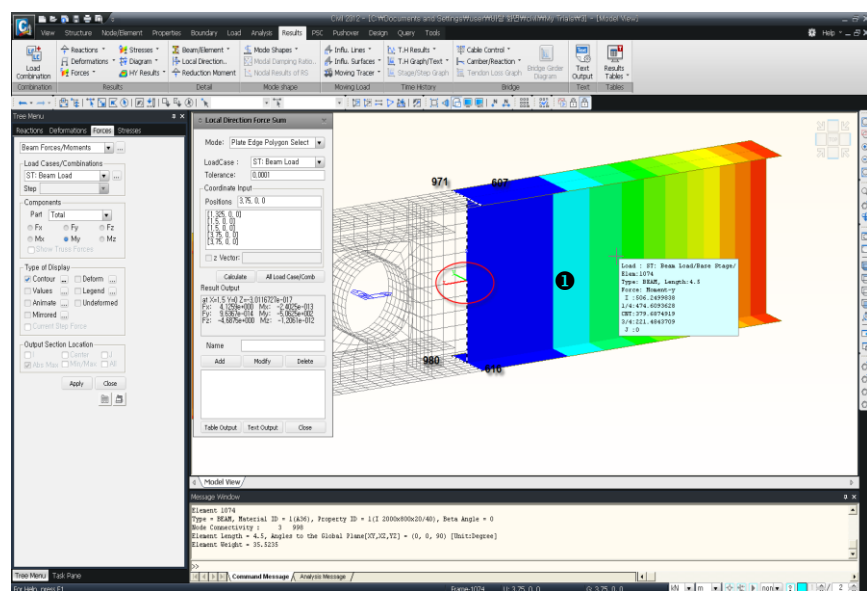

Figure 3.22 Local Force Sum
3. Click  **Zoom Window** in the Icon Menu to magnify the boundary of the detail model and the right side line element (Fig. 3.22).
10. Click nodes **980, 971, 607, 616, 980** successively as shown in Fig.3.22.
The sum of all the nodal forces, contained in the specified section, is computed at the centroid of the section according to the local coordinates (Fig. 3.22–**1**) defined on the section for which element forces are to be computed. The computed value of the strong axis bending moment, M_y , for the member at the right end of the detail model is 506.25 kN·m.